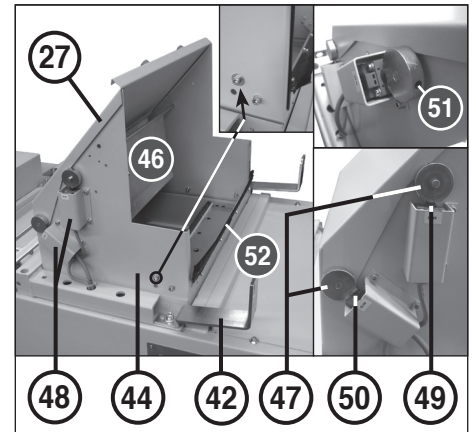

fig. 5
INSTALLATION OF THE HOPPER (44) (fig. 5):
1. Release the transport lock (binder) on the outlet flap (31) and fold the flap down.
2. Take the hopper (44) out of the press compartment, as shown, place over the filler opening and fix to the press from inside with the aid of the 7 hexagon socket screws M6x12.
3. Swivel the brush strip (52) on the hopper (44) up until the brush is pointing in the direction of the press compartment. Fix the brush strip to the hopper in this position with the two M6x16 hexagon socket screws and washers provided (use upper hole for fixing).
4. Remove both switch covers (48). Fix the limit switch S8 (49) with 2 screws M4x40 and nuts M4 below the switch cam of the switch flap (47). Undo the threaded pin (51) (Allen key 2.5 mm), turn the cam into position and tighten the threaded pin again.
- 44 = hopper (fig. 5)
- 46 = switch flap (fig. 5)
- 47 = switch cam (fig. 5)
- 48 = switch cover (fig. 5)
- 49 = limit switch S8 (fig. 5)
- 50 = limit switch S9 (fig. 5)
- 51 = threaded pin (fig. 5)
- 52 = brush strip (fig. 5)